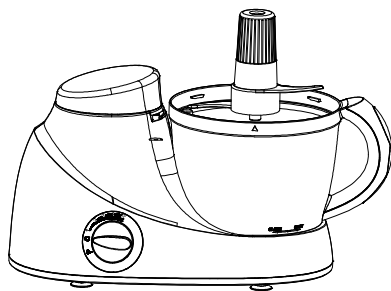

Fig.3
- Slide the metal blade onto the spindle (see fig.3).